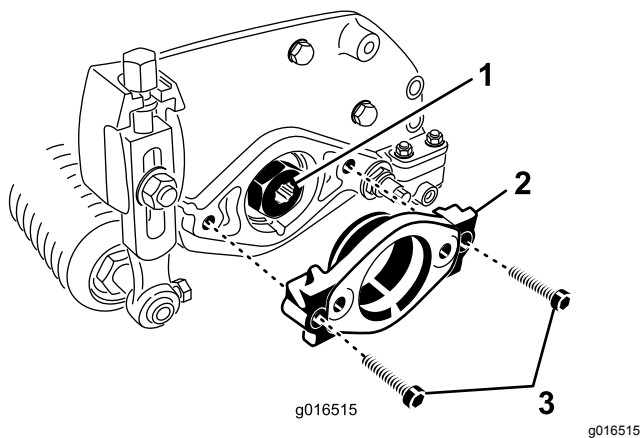

Figure 8
- Remove the 2 Allen head bolts securing the motor mount to the left end of the cutting unit. Remove the motor mount (Figure 8).
- Apply grease to the inside diameter of the drive spline (Figure 8).
- On the left end of the cutting unit, apply a light coating of oil to the O-ring and install the motor mount with the 2 Allen head bolts previously removed (Figure 8). Torque the bolts to 16 to 20 N·m (12 to 15 ft-lb).